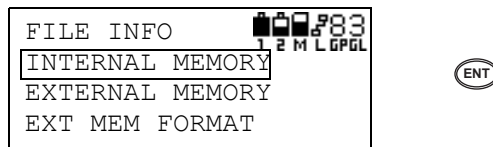

Figure 3-98. Select Internal Memory and Press Enter
2. On the File Info screen, select INTERNAL MEMORY and press **ENT** (Figure 3-98).